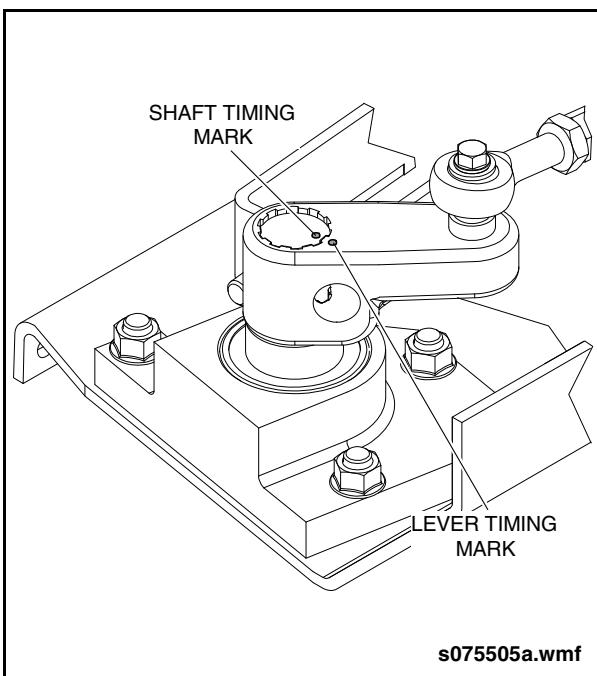

Fig. 16-3: Timing Marks
4. Reinstall door shaft levers ensuring timing marks on shaft and lever are aligned. Tighten pillow block bearing collar set screws and torque operating lever lock bolts to  $47$  ft-lb. ( $57$  Nm). See "Fig. 16-3: Timing Marks" on page 9.